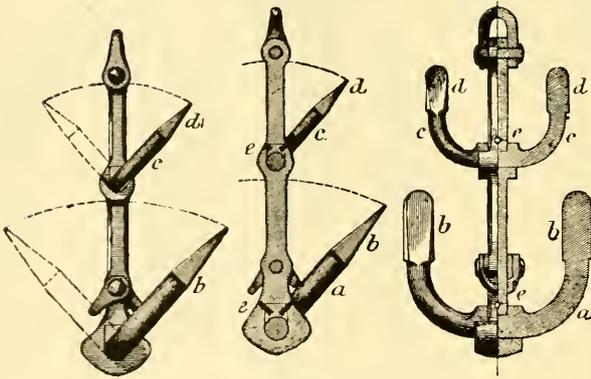

FIG. 224.
*Anchor (Liardet's).*—The peculiarity of this anchor (Fig. 224) is that the stock is provided with flukes the same as the arms. The arms and stock are so fitted that they can move within a range of 45°. When stowed, the arms and stock lie in a line with the shank. There is a shackle for the cable and another near the crown for a buoy rope. The arms are shown by *a a* and the flukes by *b b* (Fig. 224). The arms and flukes of the stock are similarly shown. The manner of securing the arms to the shank is shown at *e*. We are informed that the P. and O. Company and some other companies are using the anchor. The manufacturers are Messrs. Parkes and Ross, of Tipton (Staffordshire) and Liverpool.